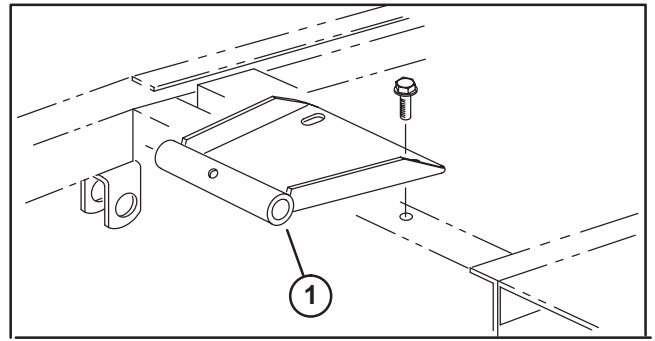

Figure 4
2. Mount seat pivot bracket to frame with (2) flange screws supplied in kit (Fig. 4).
4. Mount seat pivot bracket to frame with (2) flange screws supplied in kit (Fig. 4)